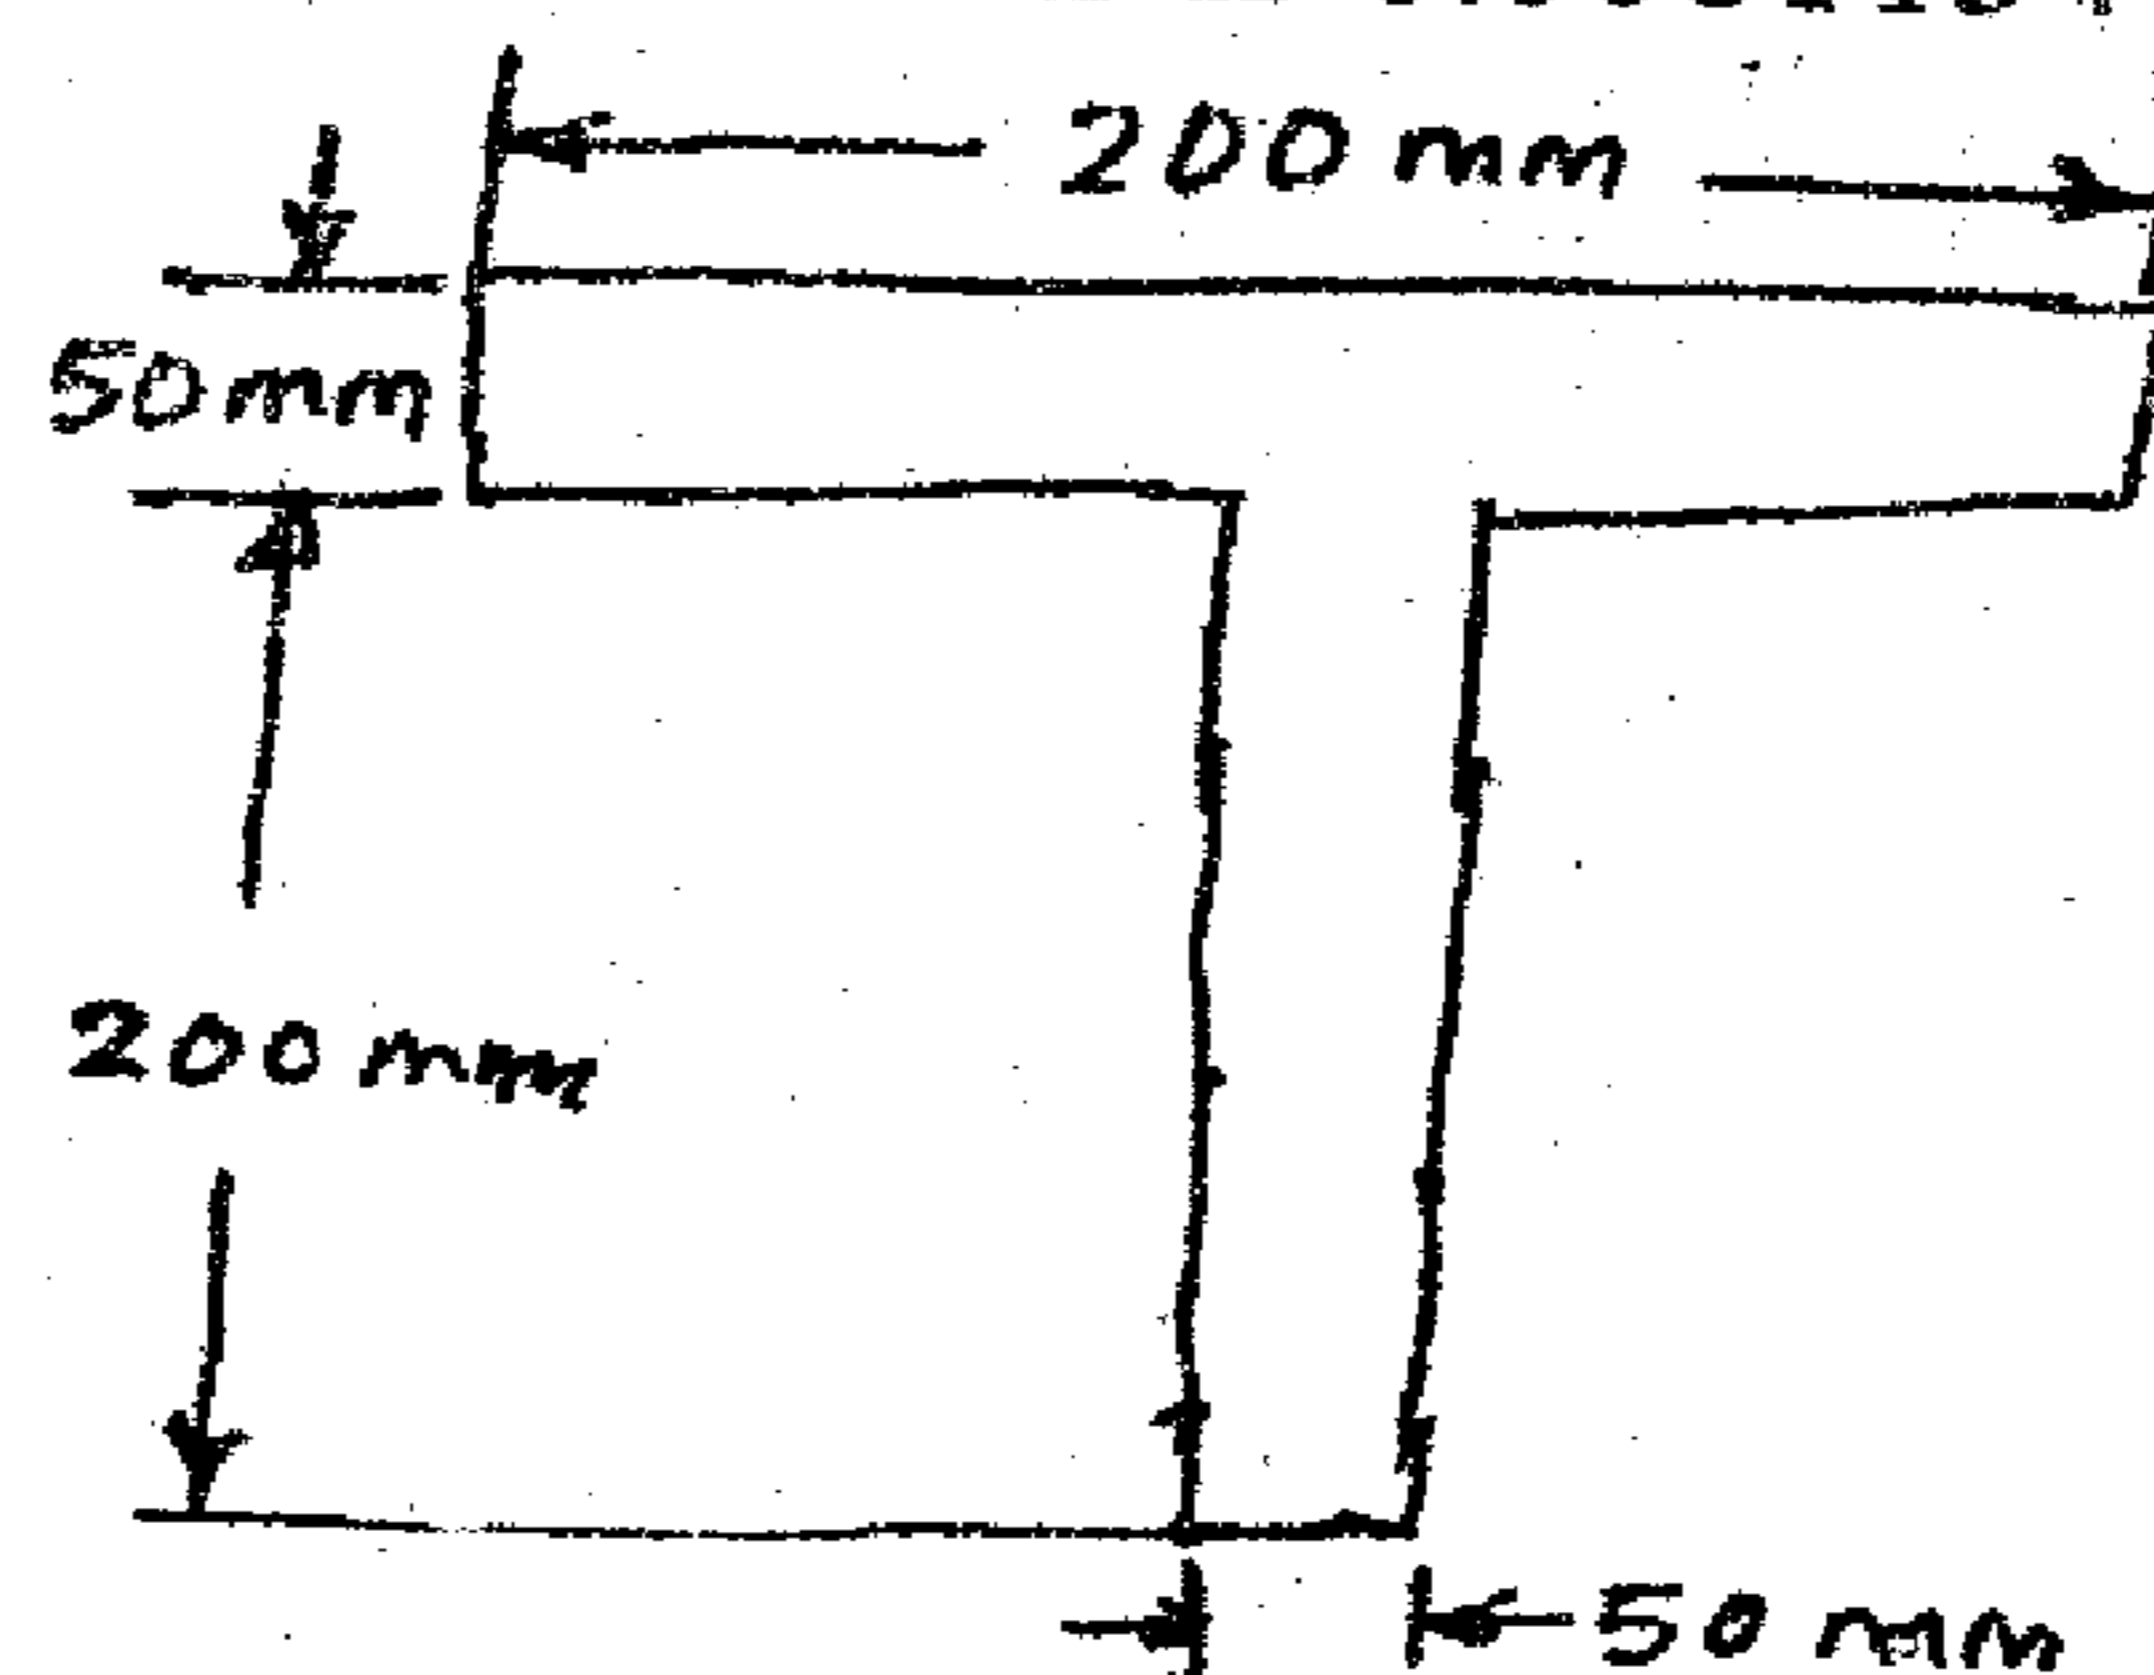

Fig.Q6(b)
- b. A T-shaped cross-section of a beam in fig.Q6(b) is subjected to a vertical shear force of 100kN. Calculate the shear stress at the neutral axis and at the junction of the web and the flange. M.I. about the horizontal neutral axis is  $0.0001134 \text{ m}^4$ . (10 Marks)